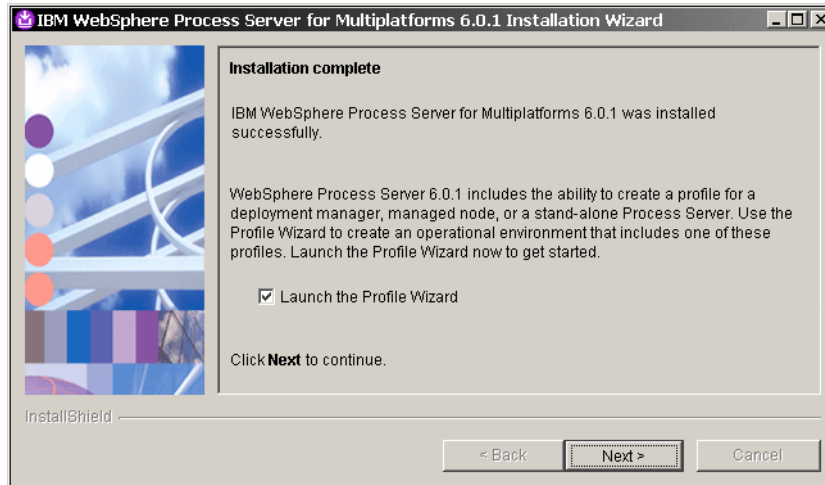

Figure A-13 WebSphere Process Server: Launch Profile Wizard
- ▶ Optionally select *Launch the Profile Wizard* and click *Next* (Figure A-13).